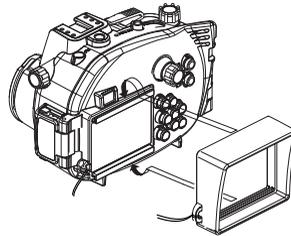

Fig.6
2. Mount the LCD monitor hood to the holder (Fig.6).